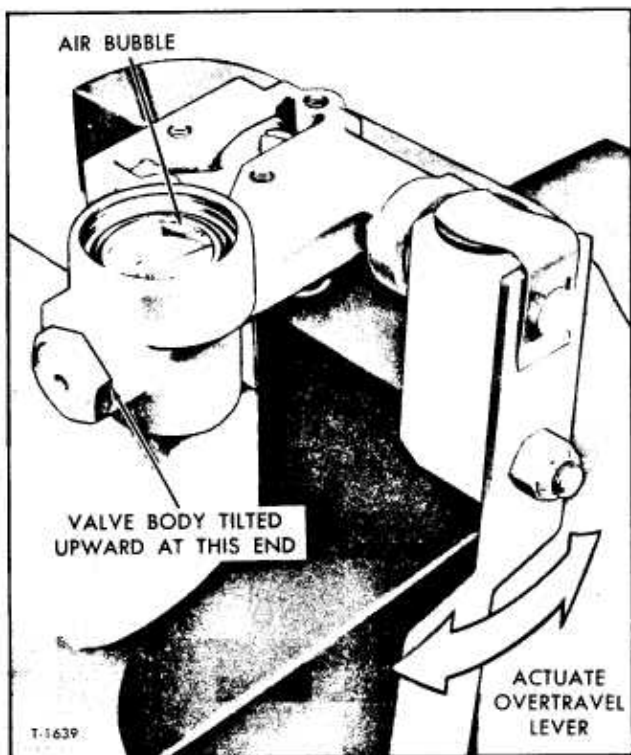
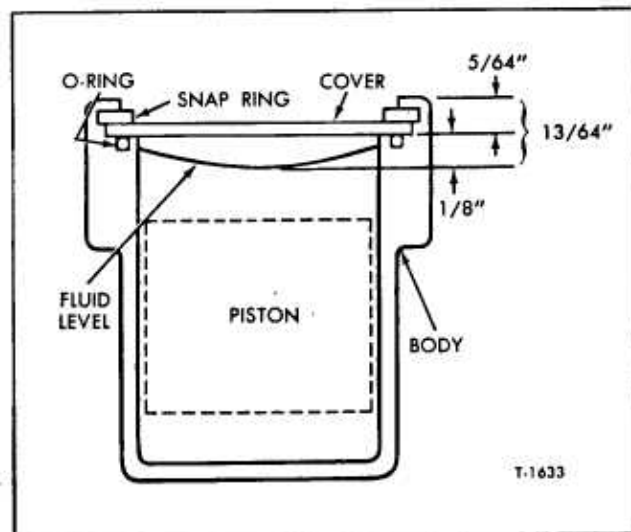

Figure 34-Venting Air From Silicone Fluid
Figure 35-Silicone Fluid Level
1. Pour 5.5 cc  $\pm$  0.25 cc of Silicone fluid (3,000 Centistokes viscosity at 25°C.) into delay piston bore. With valve body tilted slightly, as shown in Figure 34, carefully operate overtravel lever fore and aft to vent air from fluid. When all air has been expelled from piston pin cavity, check fluid level (figure 35).
**IMPORTANT:** With valve assembly level, take measurement from center of bore only. Add or remove fluid to bring fluid to dimension shown in Figure 35. An eyedropper will serve for this purpose.